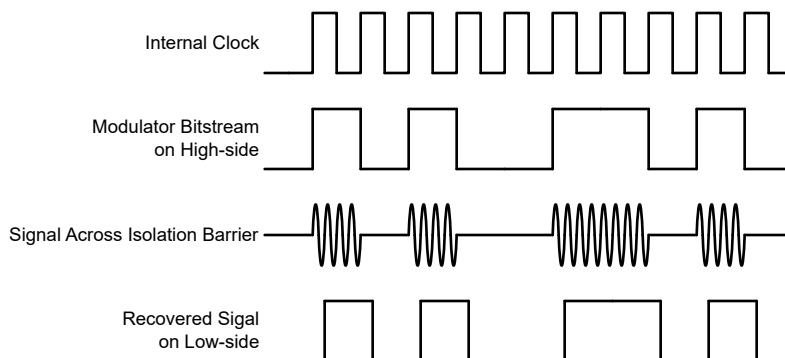

Figure 8-1. OOK-Based Modulation Scheme
The AMC1300 uses an on-off keying (OOK) modulation scheme, as shown in Figure 8-1, to transmit the modulator output bitstream across the SiO₂-based isolation barrier. The transmit driver (TX) shown in the Functional Block Diagram transmits an internally generated, high-frequency carrier across the isolation barrier to represent a digital *one* and does not send a signal to represent a digital *zero*. The nominal frequency of the carrier used inside the AMC1300 is 480 MHz.